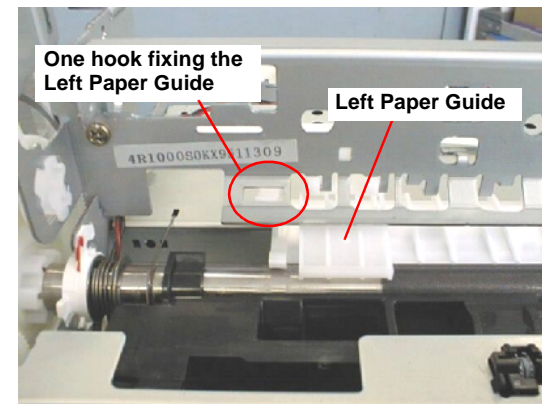

Figure 4-58. Removing the Left Paper Guide
- 8) Stylus COLOR 860: Slide the Left Paper Guide to the left and remove it, releasing one hook from the Top Frame. Refer to Figure 4-58.